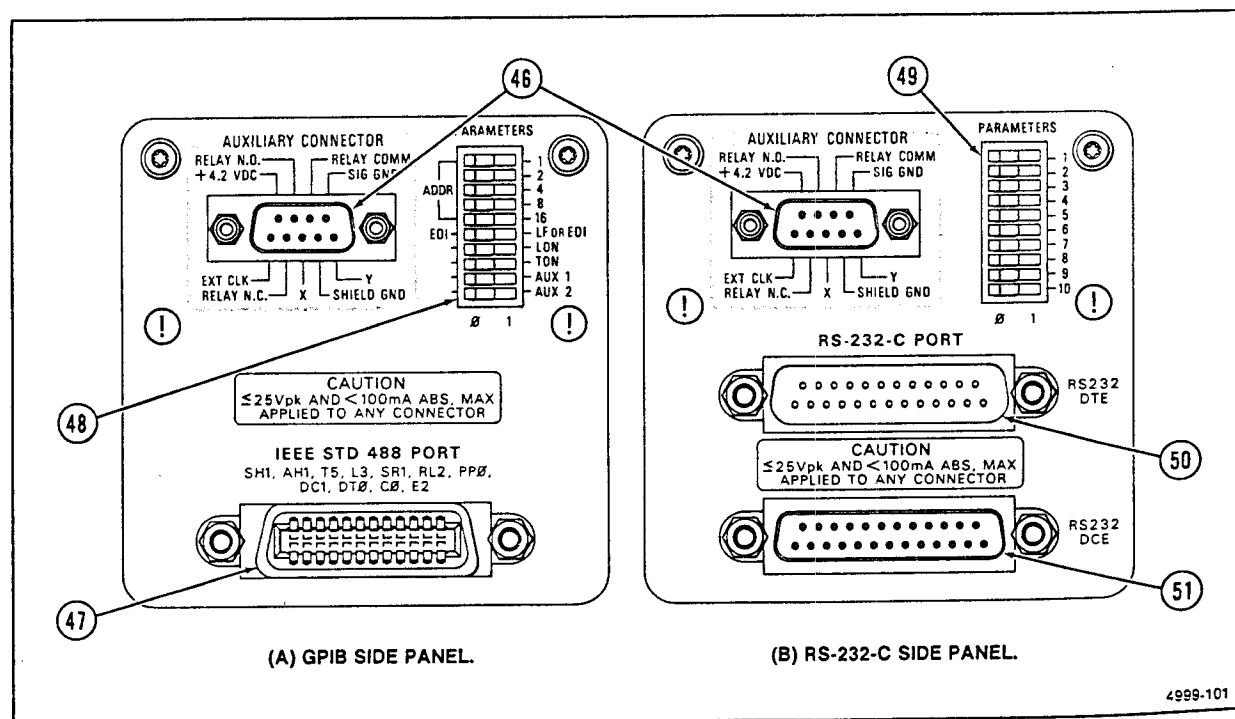

Figure 7-1. Option side panels.
The instrument is supplied with one of three possible side panels. The standard side panel (Figure 3-8) includes one AUXILIARY connector. The Option 10 side panel (Figure 7-1A) includes one AUXILIARY connector, one GPIB (IEEE 488-1978) interface port, and one PARAMETERS switch. The side panel for Option 12 instruments (Figure 7-1B) includes one AUXILIARY connector, one RS-232-C interface port (includes one DTE and one DCE connector), and one PARAMETERS switch. The Controls, Connectors, and Indicators part of this manual contains information on the use of the AUXILIARY Connector. Refer to Figure 7-1 for location of items 46 through 51.
- ④⑥ **AUXILIARY Connector**—Provides connections for an X-Y Plotter and an External Clock input (see Controls, Connectors, and Indicators).
- ④⑦ **GPIB Connector**—Provides the ANSI/IEEE Std 488-1978 compatible electrical and mechanical connection to the GPIB. The connector is only on instruments with Option 10. The function of each pin of the connector is shown in Table 7-5.